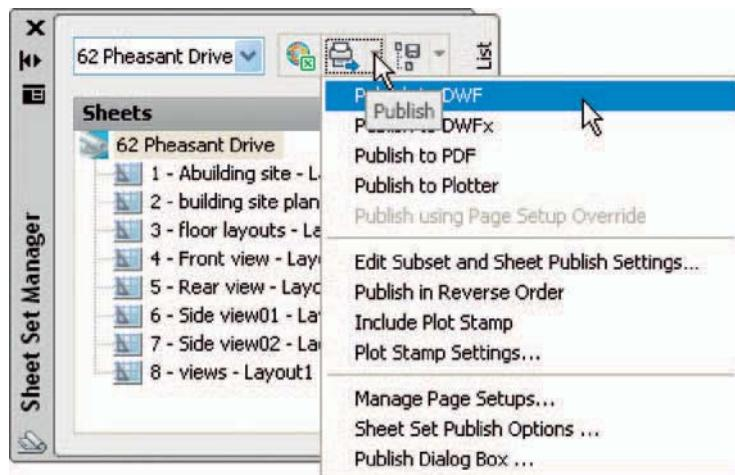
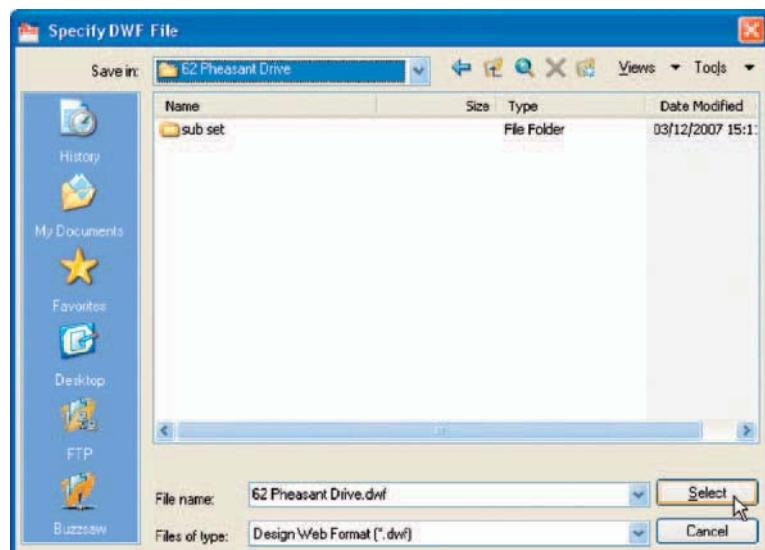
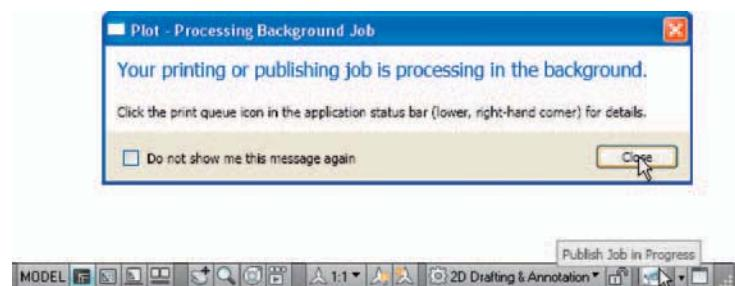
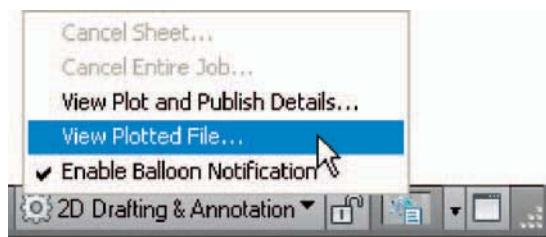

Fig. 11.10 The Publish icon in the Sheet Set Manager
Fig. 11.11 The Select DWF File dialog
Fig. 11.12 The Publish Job in Progress icon
Fig. 11.13 The right-click menu of the icon
1. In the **62 Pheasant Drive Sheet Set Manager** click the **Publish** icon, followed by a *click* on **Publish to DWF** in the menu which appears (Fig. 11.10). The **Specify DWF File** dialog appears (Fig. 11.11). *Enter 62 Pheasant Drive* in the **File name** field followed by a *click* on the **Select** button. A warning window (Fig. 11.12) appears. *Click* its **Close** button. The **Publish Job in Progress** icon in the bottom right-hand corner of the AutoCAD 2010 window starts fluctuating in shape, showing that the **DWF** file is being processed (Fig. 11.12). When the icon becomes stationary *right-click* the icon and *click* **View Plotted file** in the right-click menu which appears (Fig. 11.13).